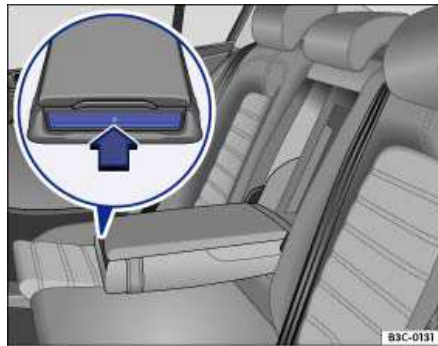

Fig. 124 In the rear center armrest: Opening the cup holders.
- Press on the front of the center armrest in the direction of the arrow ⇒ fig. 124. The cup holders open.